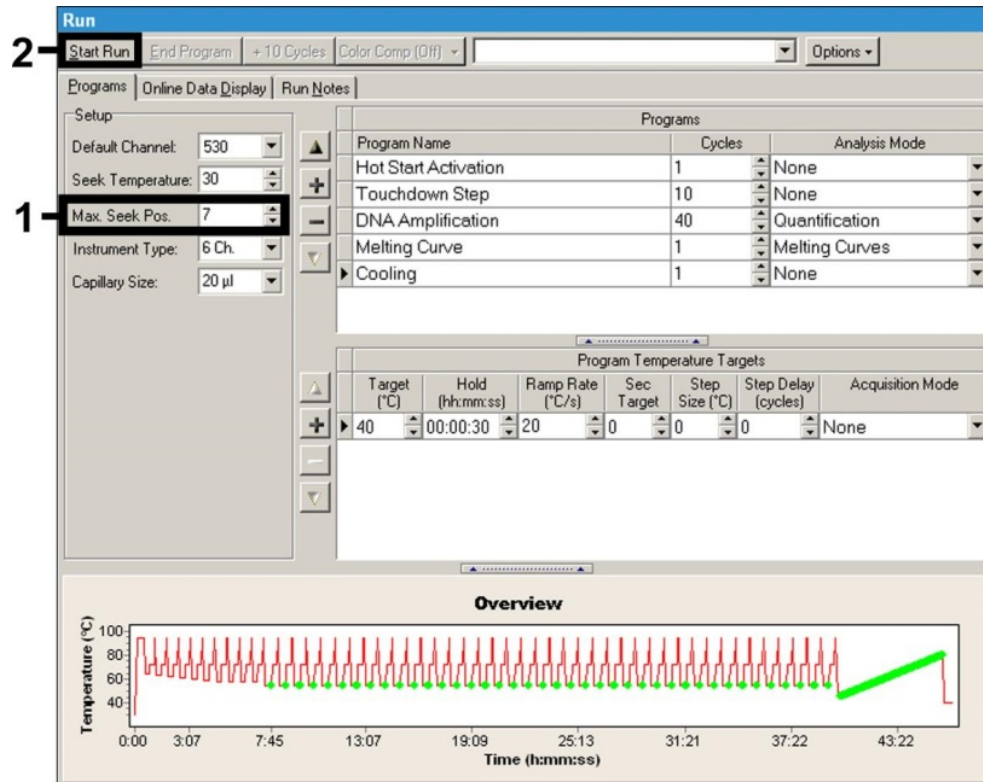

Figure 7. Start of the PCR run.
2. **Important:** First enter the number of capillaries prepared for this PCR run (**Max. Seek Pos.**, see [1] in Figure 7).
16. To start the PCR run, change to the field **Run** and activate the function **Start Run** (see [2] in Figure 7).